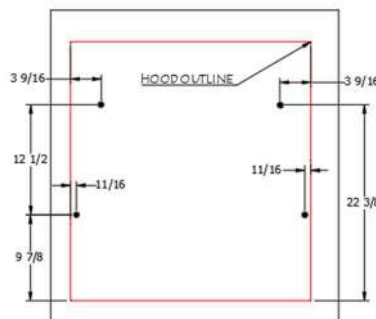

Figure 2.1
- Mark holes if using frame mounting holes (Figure 2.1).